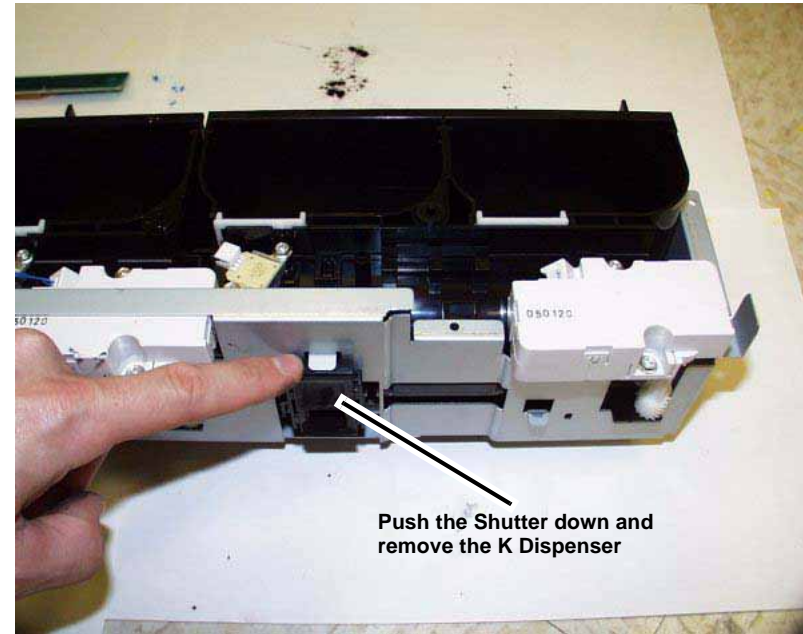

Figure 6 Removing the K Dispenser
7. Remove the K Dispenser (Figure 6).